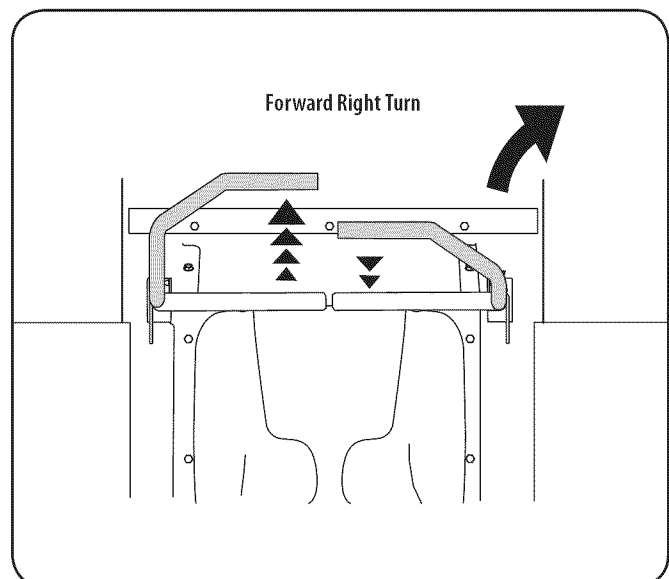

Figure 4
2. To turn to the right, move the right drive control lever rearward of the left lever. See Figure 4.